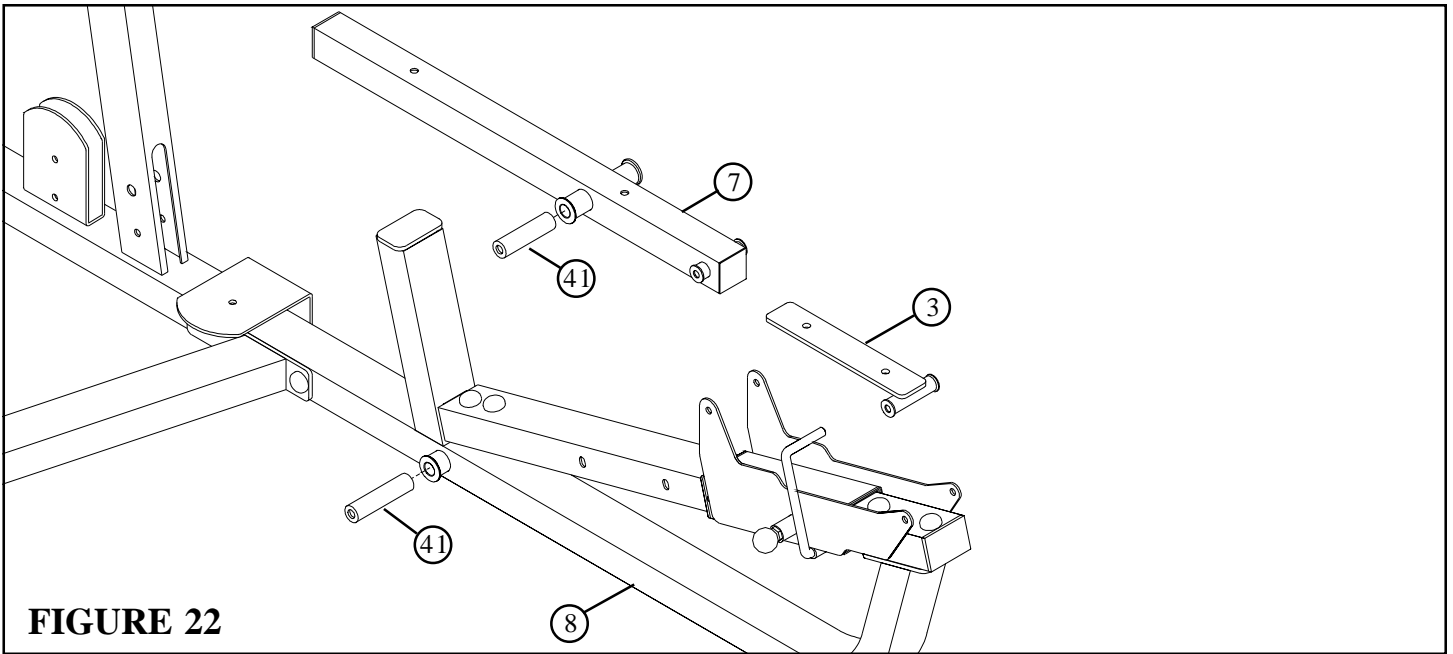

FIGURE 22
- Insert one 5-1/2" PIVOT SHAFT (41) into the MULTI PRESS FRAME (8) and one 5-1/2" PIVOT SHAFT (41) into the BACK PAD SUPPORT (7) as shown in FIGURE 22.